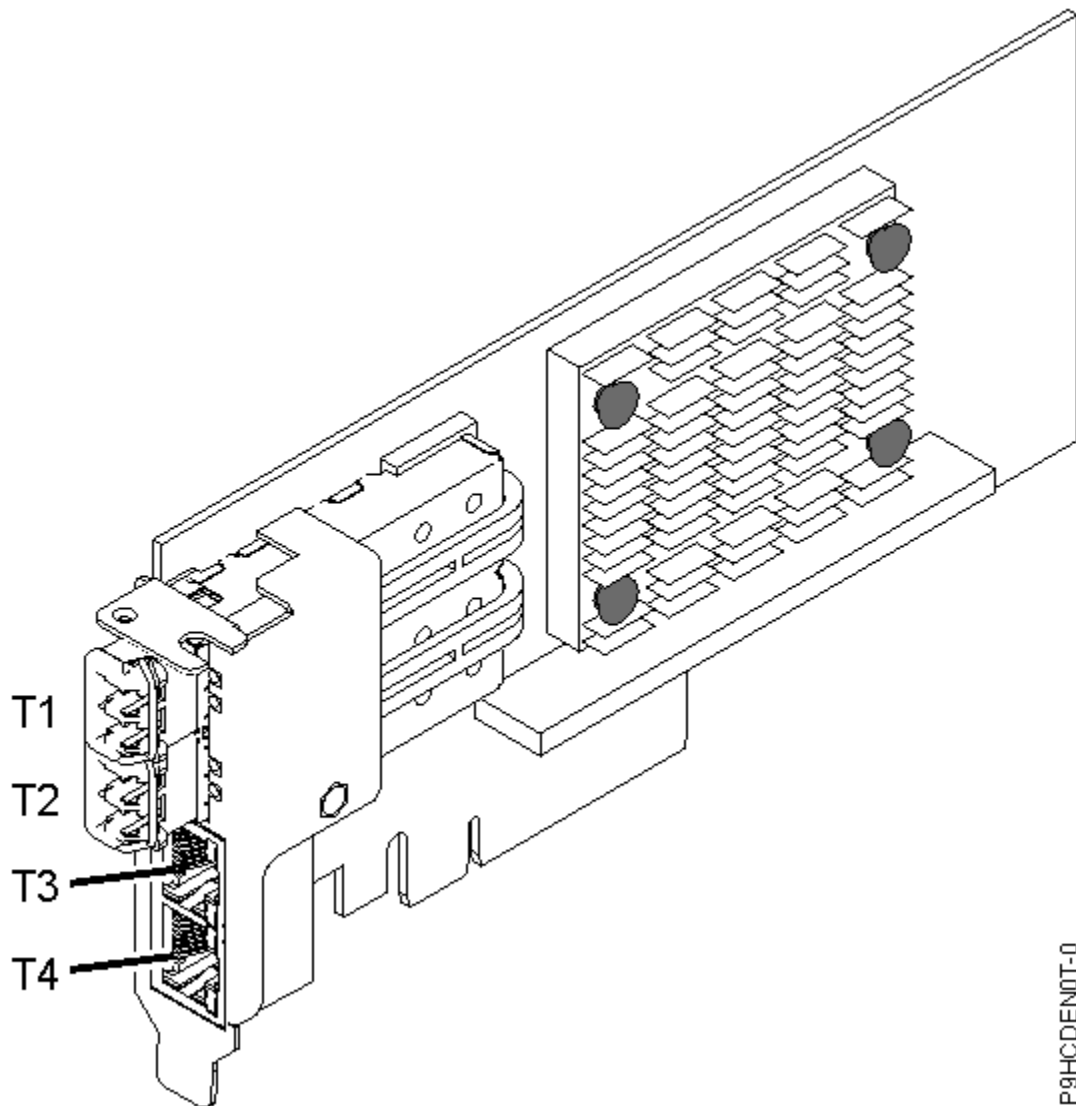

Figure 34. PCIe3 LP 4-Port (10Gb+1GbE) SR+RJ45 Adapter
The four-port adapter provides two 10 Gb small form-factor pluggable (SFP+) optical SR transceiver ports and two 1 Gb RJ45 Ethernet ports. The two 10 Gb SR ports have little connector (LC) duplex-type connectors. The optical transceiver uses shortwave laser optics and is attached with MMF-850nm fiber cabling with LC connectors. See “Cables” on page 72 for more information about the optical cables. Each 10 Gb port provides Ethernet connectivity with a nominal data rate of 10 Gbps (gigabits per second). Figure 34 on page 71 shows the FC EN0T adapter.